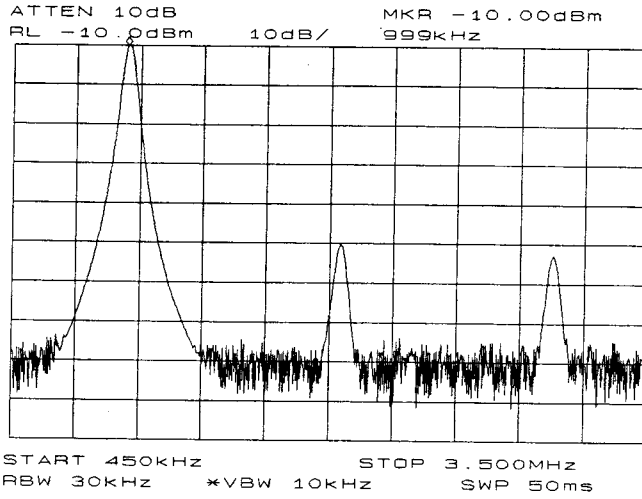
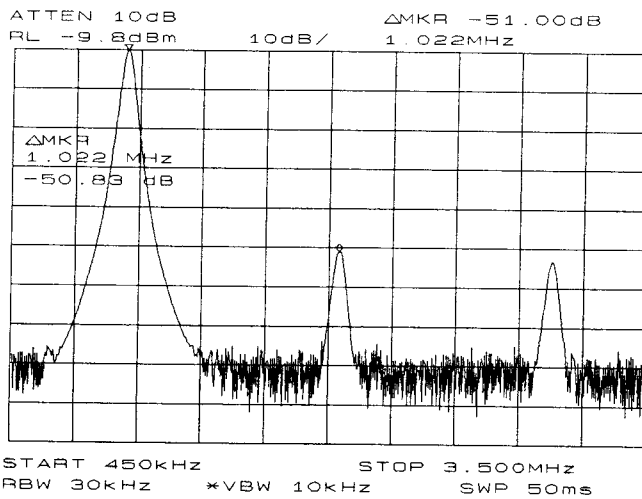
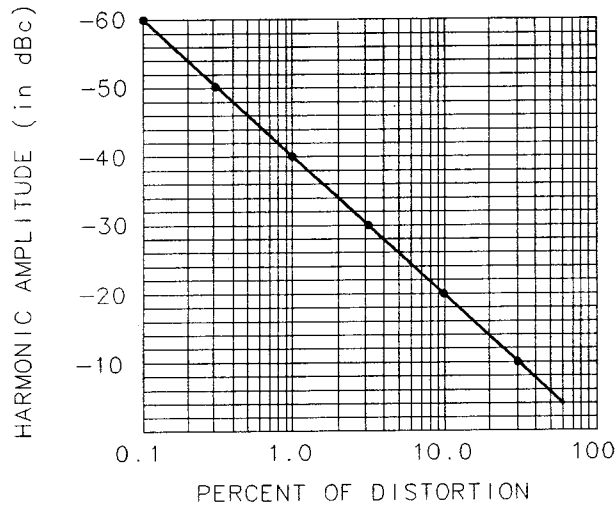
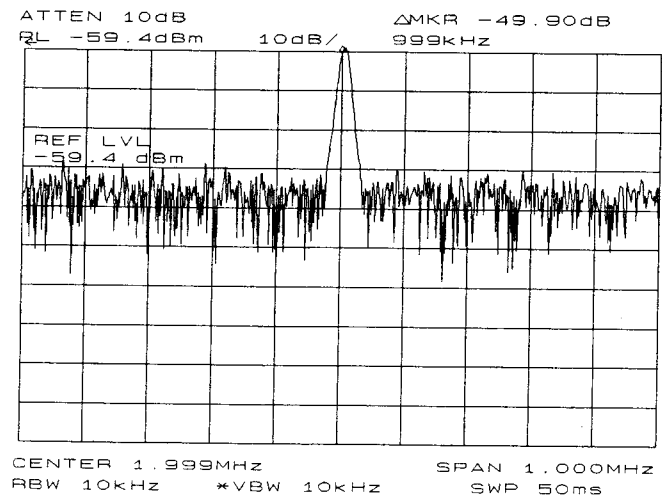

Figure 3-2. Peak of signal is positioned at reference level for maximum accuracy.
Figure 3-3. Harmonic distortion measured in dBc. Marker threshold set to -70 dB.
Figure 3-4. Percentage of Distortion versus Harmonic Amplitude
Figure 3-6. Second Harmonic Displayed in dBc
2. For greatest measurement accuracy, raise the peak of the fundamental to the reference level by pressing **PEAK SEARCH**, **MKR ->**, and then **MARKER -> REF LVL**. This is shown in Figure 3-2. In order to place a second marker on the second harmonic, set the peak threshold above the noise by pressing **PEAK SEARCH**, **MORE 1 OF 2**, and **PEAK THRESHLD**. Adjust the dashed line to a level above the noise using either the step keys or the knob. To activate a second marker, press **PEAK SEARCH**, **MARKER DELTA**, and **NEXT PK RIGHT**. This places the anchor marker on the fundamental, and a second marker on the peak of the second harmonic as shown in Figure 3-3. The difference in amplitude between the fundamental and second harmonic shown in the figure is approximately -50 dB, or 0.33 percent harmonic distortion (see Figure 3-4). To measure the third harmonic, press **NEXT PK RIGHT** again. Continue reading amplitudes and comparing them to Figure 3-4 for each additional harmonic you wish to measure. **PEAK EXCURSN** defines what is and is not a peak; the next-peak routines find the corresponding peak.
- To measure the second harmonic, press **MKR**, **MARKER DELTA**, **FREQUENCY**, and the step up **▲** key. This step retunes the spectrum analyzer center frequency to the second harmonic. Adjust the harmonic to the reference level. (Note that the **MARKER -> REF LVL** function is not available in marker-delta mode.) This displays the amplitude of the second harmonic as shown in Figure 3-6. The difference between the second harmonic and the fundamental can be converted to a percentage of distortion using Figure 3-4. Again, units can be changed to volts in order to read the voltage ratio of the two signals.